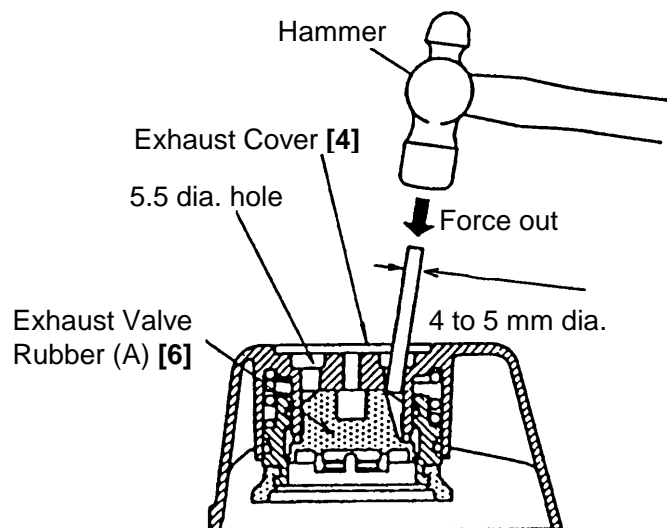

Fig. 10B
- As shown in Fig. 10B, insert a 4 to 5 mm dia. bar into the 5.5 dia. hole in the Exhaust Cover [4] and force out the Exhaust Valve Rubber (A) [6] with a hammer. Now, the parts forming the Exhaust Cover [4] can be taken out.